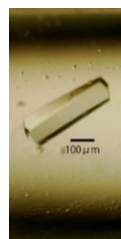

Fig. 1
3. Reservoir solution #1: 5% PEG 4000, 0.4 M NaCl, 50 mM acetate buffer pH 4.5. A small crystal starts growing (Fig. 1).